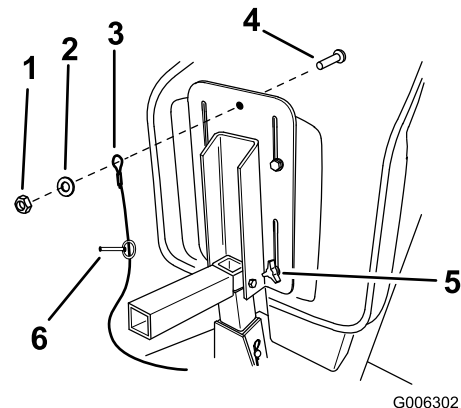

Figure 1
3. Install the lanyard, attached to the hydraulics lever clamp, to the seat base with a screw, washer, and locknut (Figure 1).